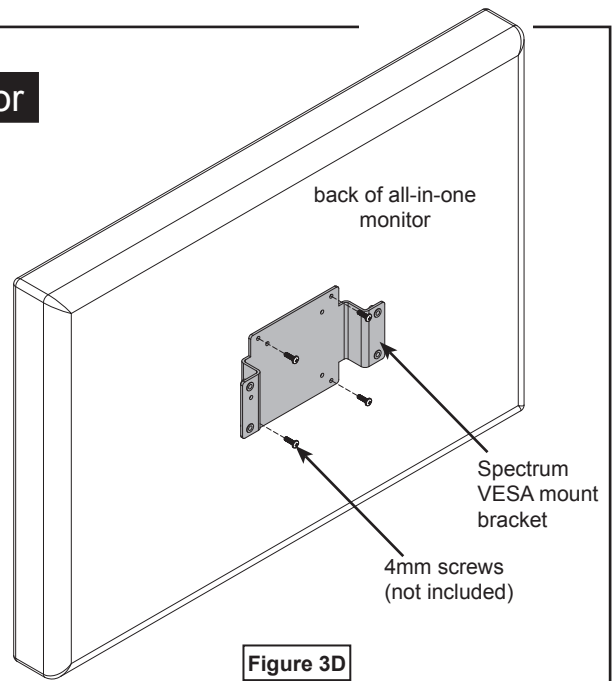

Figure 3D
1. Attach the Spectrum VESA mount bracket to your all-in-one monitor using (4) 4mm screws and instructions provided with the monitor. **Figure 3D.**